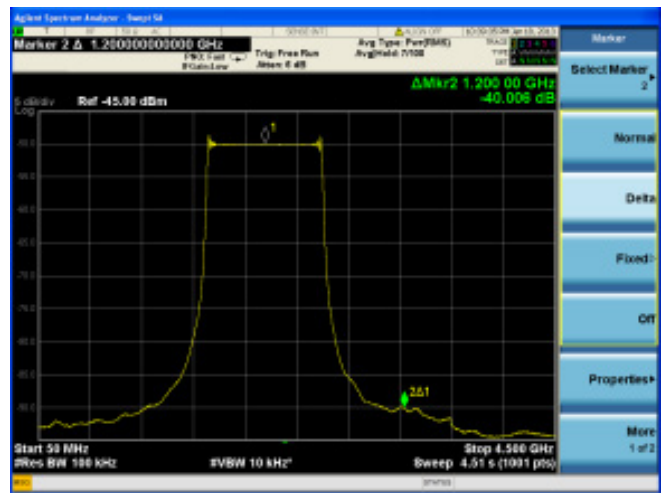

Figure 2. As shown in this spectrum measurement, a 1-GHz chirp sweeps from 700 MHz to 1.7 GHz in 2 μ s and has a dynamic range of 40 dB.
- An AWG such as the Agilent M8190A creates a pair of linear frequency chirps, each having a bandwidth of 500 MHz to 1 GHz. These chirps provide the same high resolution of the CW approach but in much less time (Figure 2).